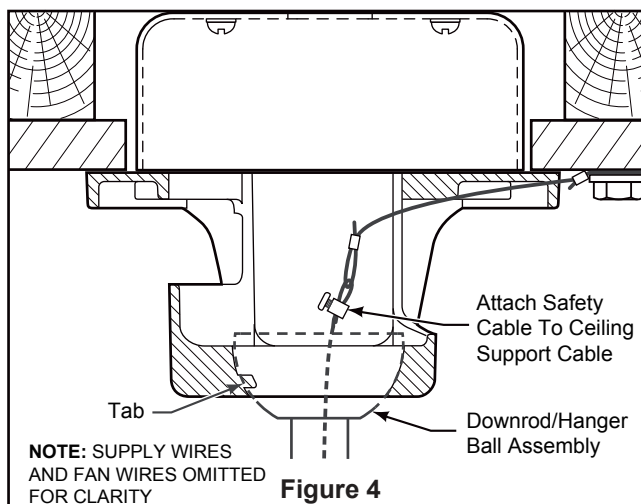

Figure 4
- ☐ 4. Carefully lift the fan and seat the downrod/hanger ball assembly onto the hanger bracket that was just attached to the outlet box. Be sure the groove in the ball is lined up with tab on the hanger bracket. (Figure 4)
- ☐ 5. Attach the safety cable to ceiling support cable. Slide cable clamp and washer onto safety cable (from fan). Place the end of cable through the loop of ceiling support cable. Pull as much cable through loop as possible. Feed end of cable into clamp hole and firmly tighten screw. (Figure 4)